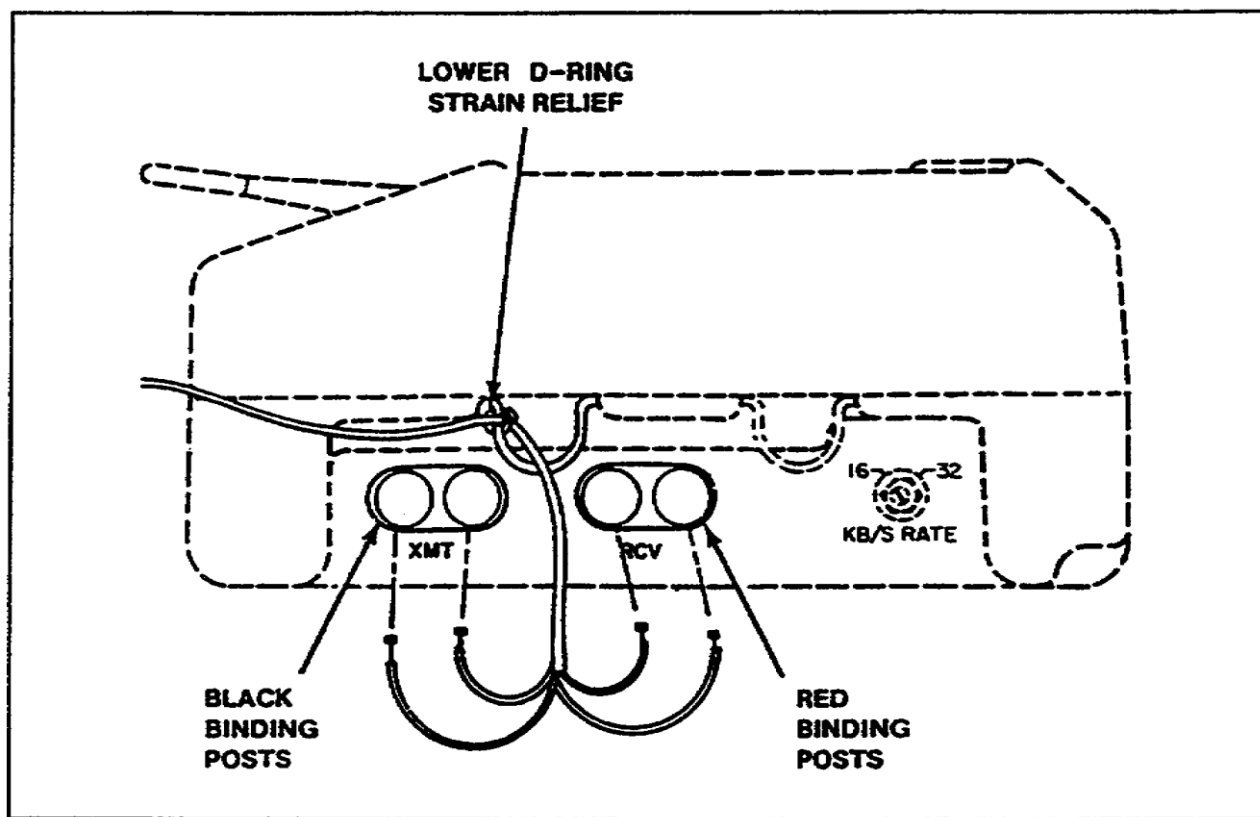

Figure 1-23. DNVT field wire/cable connections.
c. Field wire connection. Insert the wire/cable WF-16/U through the lower right D-ring for strain relief. Prepare the wire/cable by removing 1/2 inch of insulation from the wire. Strip 1/2 inch more and pull it to the end of the wire. Cut off 1/4 inch of the end of the wire. Connect the field wire/cable by pushing the end of the proper binding post, insert the wire end into the opening of the binding post, and release the binding post. (See Figure 1-23.)